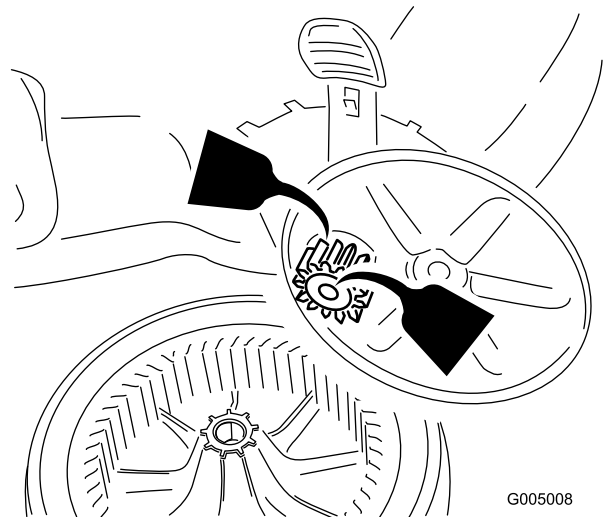

Figure 24
2. Apply a lubricating oil to the inner and outer sides of the gear as shown in Figure 24.